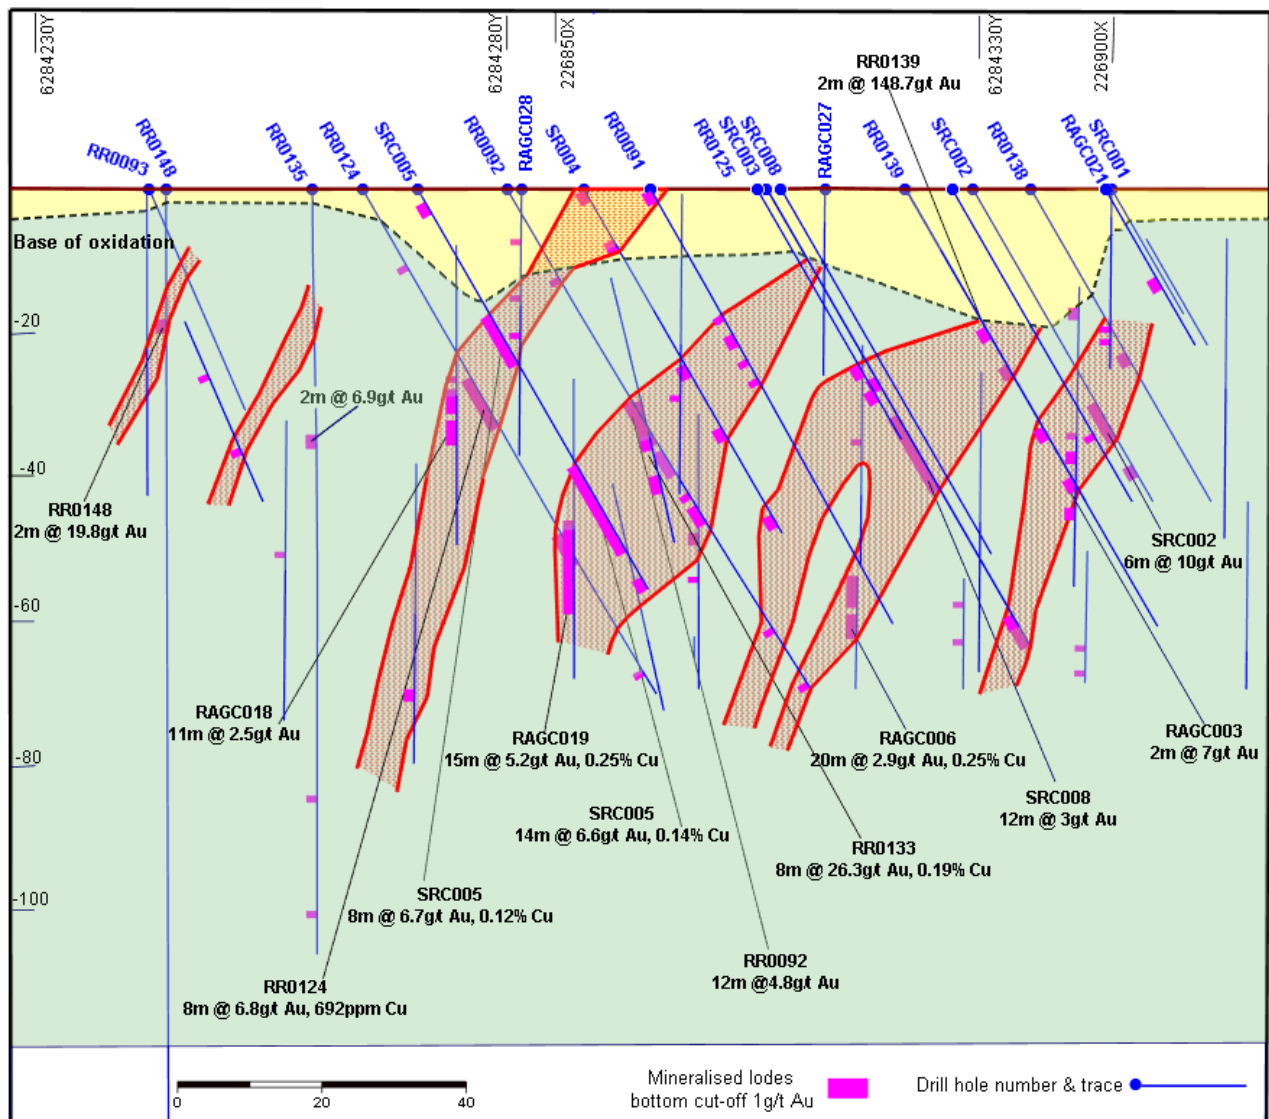

Figure 3. A long-section of the Sirdar Mine showing drill hole intersections
In 2001 Greenstone Resources Limited (3), one of the former tenement holders, estimated a non-JORC-compliant Inferred Resource of 95,000 tonnes @ 5.0 grams per tonne gold at Sirdar using a 1 gram per tonne gold bottom-cut-off and a top-cut of 20 gram per tonne gold. Traka subsequently drilled 20 reverse circulation holes and established that a steep westerly trending intrusive hosted the bulk of mineralisation. Traka did not attempt to re-estimate the resource but did confirm that high-grade gold mineralisation remained open in all directions (Figure 3). Furthermore, geochemical surveys showed that Sirdar was positioned on the south-end of an 800 metre long north orientated soil geochemical anomaly which remains untested.